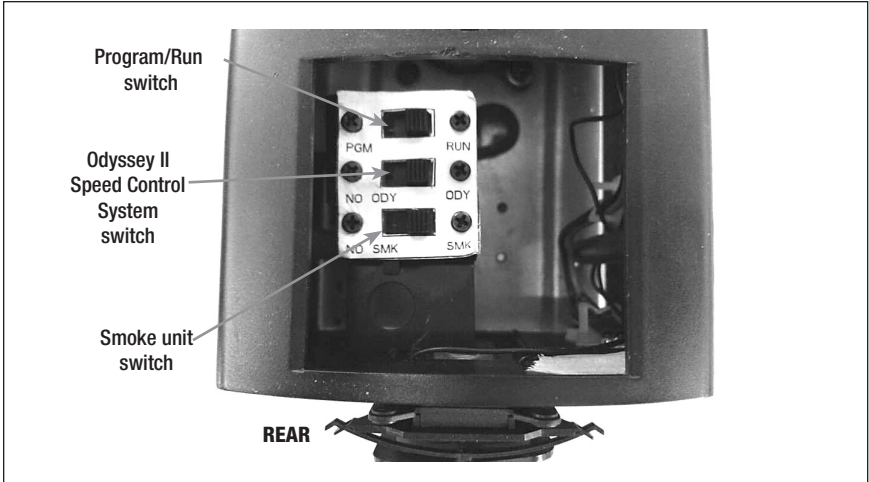

Figure 4. Switch locations
**Note!** Power your locomotive with an alternating-current (50-60Hz AC) transformer only. Powering your locomotive with a direct-current (DC) transformer, or in excess of 19 volts AC, may result in damage to sensitive electronic components.
**We recommend that you operate your LEGACY locomotive with Odyssey II Speed Control turned on.** You may choose to operate your locomotive without speed control by placing the Odyssey II Speed Control System switch to the NO ODY position. See Figure 4 on page 8 for the location of the switch.
If you prefer to operate your locomotive without smoke, locate the smoke unit switch and slide it to the NO SMK position. Refer to Figure 4 on page 8 for the location of these switches.
The functions of your locomotive's switches are outlined below. Refer to Figure 4 for the location of the switches.
1. Slide the Program/Run Switch on your locomotive to the PGM position. See Figure 4 on page 8.